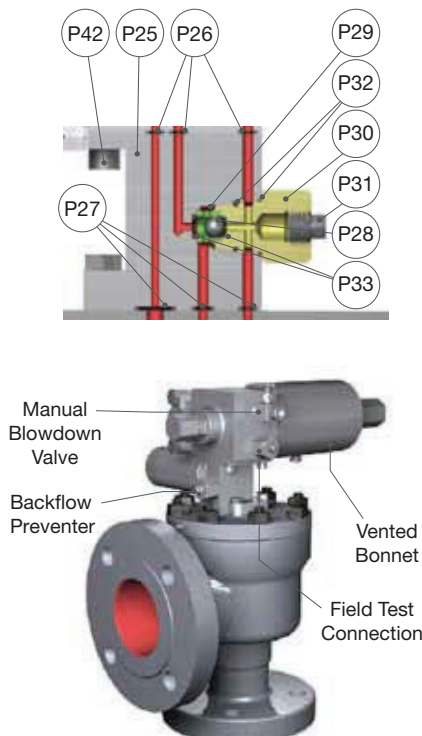

Figure 35: Backflow Preventer Assembly
A. Backflow Preventer (Figure 35)